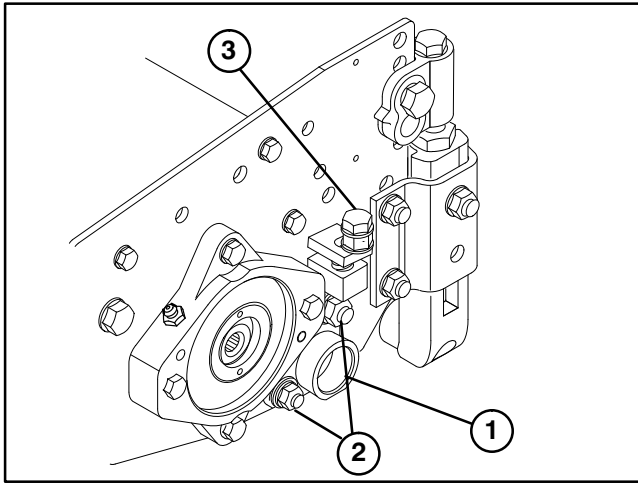

Figure 4
5. Slightly loosen (2) locknuts securing pivot hub to left sideplate (Fig. 4).
6. Rotate pivot hub adjusting screw until a slightly larger gap exists between reel blades and bed knife on left end than on right end (Fig. 4).